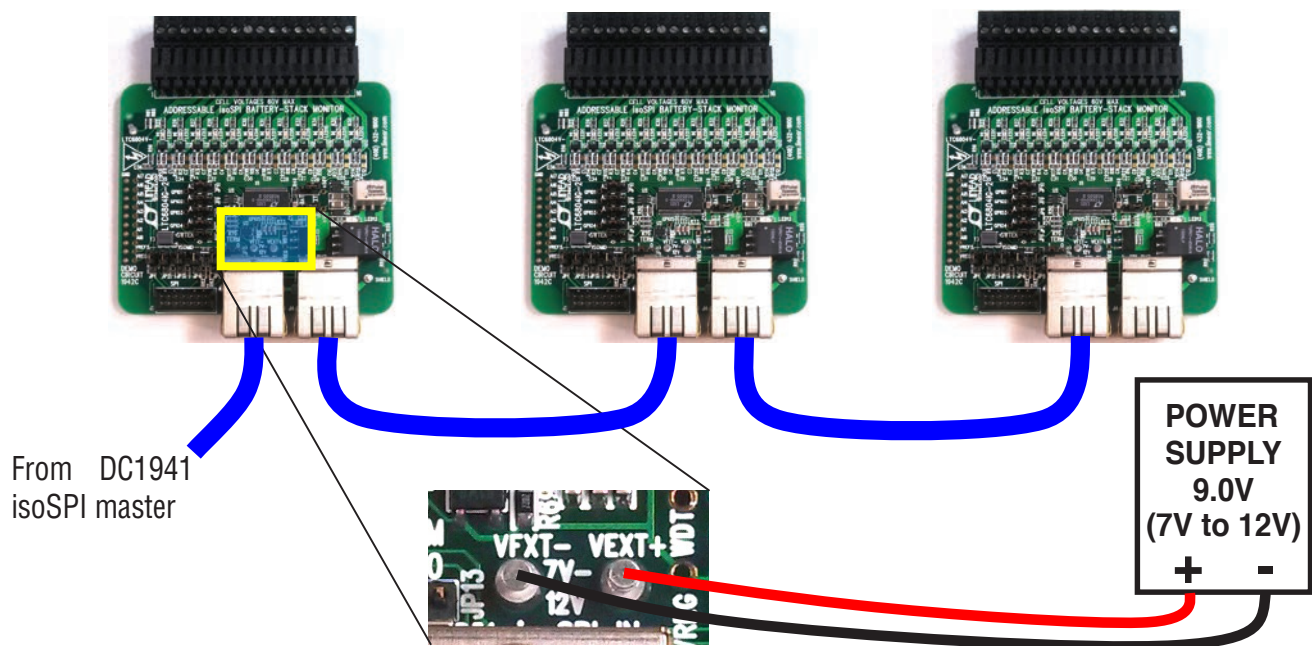

Figure 3. Connecting Multiple DC1942C in an isoSPI Bus
4. Connect RJ45 patch cables for isoSPI. A cable will be connected between the DC1941 (J1) and the first DC1942C (at J3 usually). The two iso-SPI connectors on each DC1942C are inter-changeable, so the connection pattern is not important. Build out the isoSPI bus by adding RJ45 patch cables between each successive DC1942C as shown in Figure 3.
5. Configure the jumpers of the DC1942C units as shown in Figure 3.